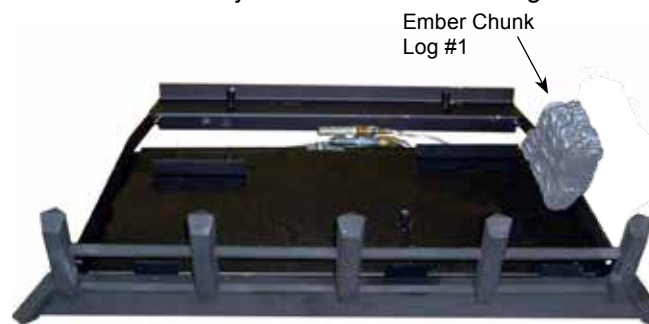

Figure 28. Place Ember Chunk Log #1
1. Place the #1 log (the "chunk") on the grate bar right side of the burner adjacent to the controls. Figure 28.